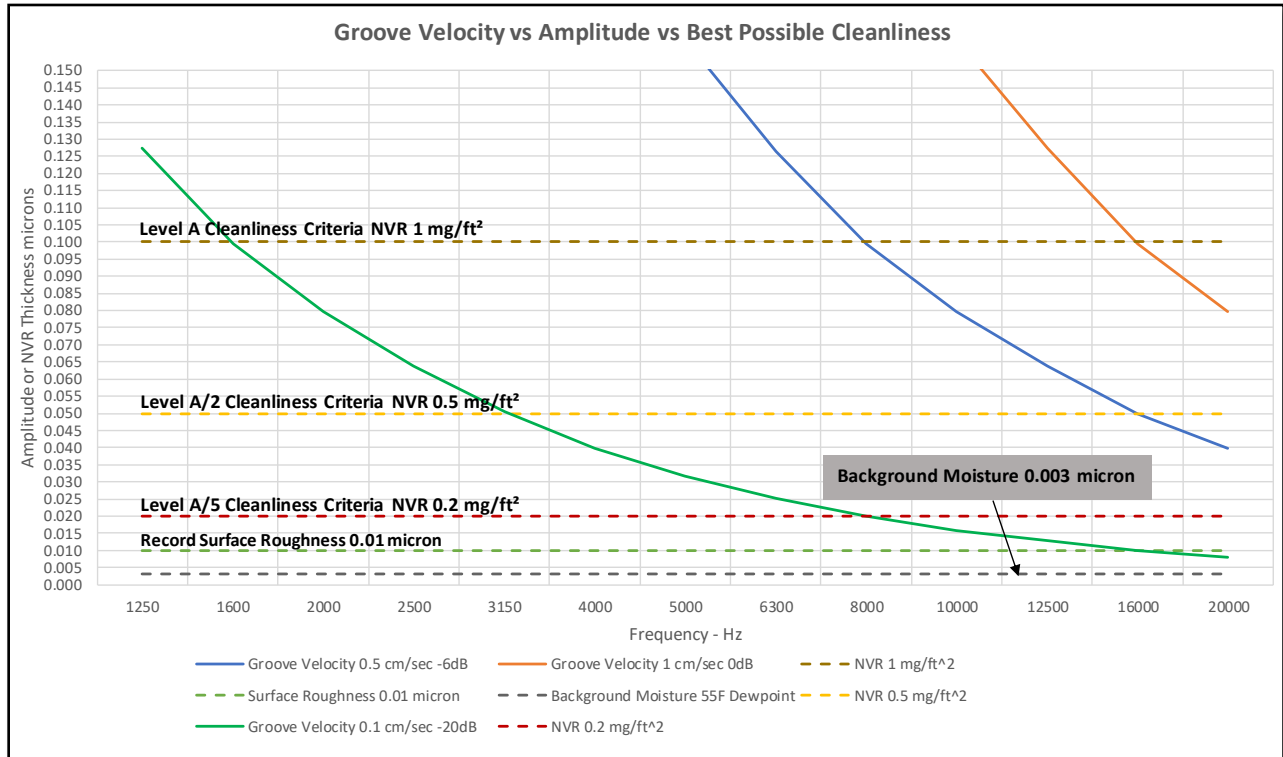

Figure 48 – Groove Velocity vs Amplitude vs Best Possible Cleanliness
- XI.7.1 My own experience implies that achieving the lowest level of any residue may be beneficial. Improved playback quality – better detail – less distortion has been noted during the dry winter months. Similar improvement was not noted with my digital sources. The only quantifiable variable was ambient relative humidity had decreased from the mid-50's to the lower 30's/upper 20's percent (humidifier not used). Per **CHAPTER VI. MAINTAINING CLEANLINESS:**, my platter and mat are grounded as specified, and I had no static issues even with carpet and socks. The lower humidity will by **Table IX** result in a thinner moisture film, but the film theoretically is less than the record surface roughness as shown **Figure 48**. But the moisture film may only be enough to fill-in the surface roughness.
- XI.7.3 There are audio enthusiasts with very high-resolution systems in acoustically engineered rooms that can reveal details not otherwise achievable. For these individuals, the best achievable cleanliness level may yield acoustic benefits. **Some people have very sensitive hearing and likewise can benefit from the best achievable cleanliness level. Consider what is written page 16 - of *UIUC Physics 406 Acoustical Physics of Music* @Professor Steven Errede, Department of Physics, University of Illinois at Urbana-Champaign, Illinois 2002 - 2017. *The Human Ear — Hearing, Sound Intensity and Loudness Levels (78)* "The time-averaged, or RMS sound intensity threshold of hearing (@ $f = 1$ KHz) is: $\sim 2.5 \times 10^{-12}$ RMS Watts/m² = 2.5 RMS pico-Watts/m². **Individual people may hear better/worse than the average person, and so threshold of hearing from one person to another can vary as much as 1/10 or 10X this!!!**".**
- XI.7.5 **Figure 48** shows the best possible cleanliness that can be achieved with certain limits as boundaries. The lowest is the water film at about 0.003 microns that forms from the air at 55°F dewpoint from **Table IX** . The best level of cleanliness is the inherent background noise of the vinyl record material that is a function of the material surface roughness which by the paper "*Disc cutting in theory, Hugh Finimore, Studio Sound and Broadcast Engineering, July 1975*" (35) has an equivalent amplitude of 0.01 micron (*this is better than a #8 Super Mirror Finish/Non-Directional Mirror Finish used to produce/polish stainless steel mirror*). Achieving a Level-A/2 NVR cleanliness of 0.5 mg/ft² (0.05-micron layer equivalent) 'should' have some benefit in lowering the background noise floor for the silent track, but noting the very limited audio frequencies that may be affected at 0.5 cm/sec (-6 dB) and above. But, if a simple Gaussian (normal) distribution is applied to a nominal NVR of 0.5 mg/ft² = 0.05-microns, the actual film thickness could realistically vary from as low as 0.003-microns to as high as 0.11-microns. There is a cleanliness Level-A/5 (0.2 mg/ft² = 0.02 microns), but much lower and you are now approaching the surface roughness of the record and mostly below any recorded frequency/amplitude except for the silent track. It is possible to get the record the too clean. Some very small amount of benign residue 'may' actually be beneficial since it may fill-in the surface roughness yielding a lower background noise floor.